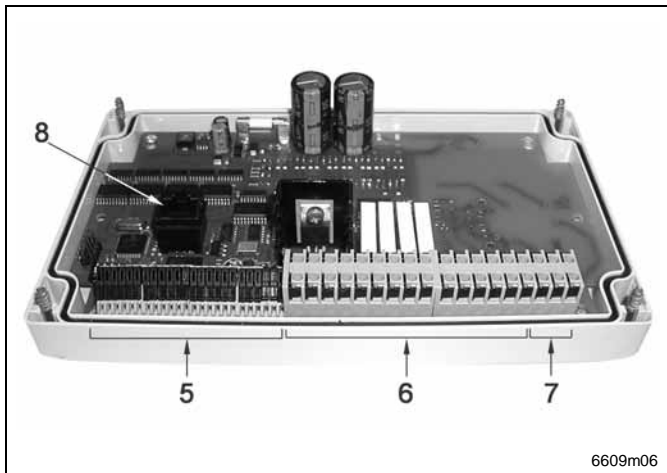

Fig. 3 LMC 1 electrical connections
- The terminals for signal inputs (pos. 5), for the ACTUATOR lines (pos. 6) and for the mains supply (pos. 7) are located on the control p.c.b. (Fig. 3).